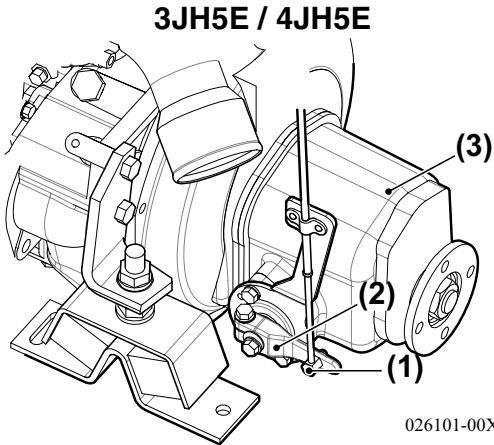
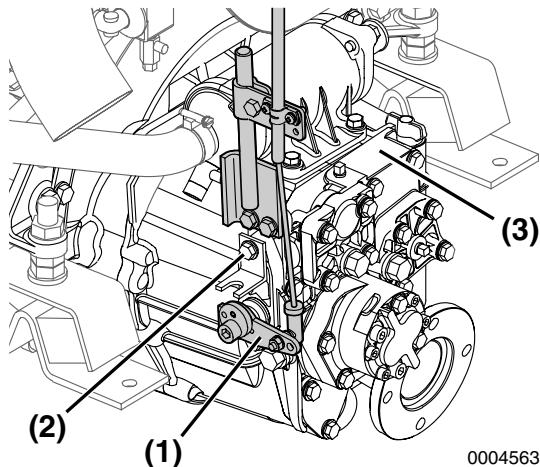

Figure 7
Figure 8
1. Ensure that the remote control lever (**Figure 7, (2)**) or (**Figure 8, (1)**) moves to the correct position when the remote control handle is in the NEUTRAL, FORWARD and REVERSE positions. Use the NEUTRAL position as the standard for adjustment.
2. To adjust, loosen and retighten the cable fitting (**Figure 7, (1)**) or (**Figure 8, (2)**).